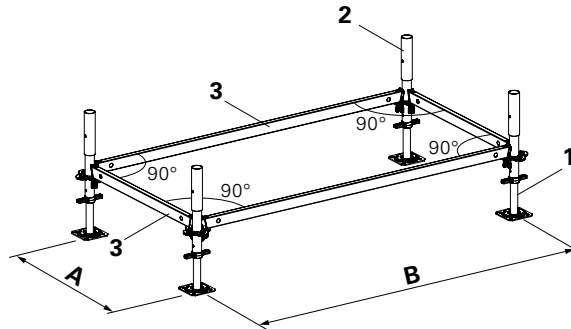

Fig. A2.01
3. Insert Horizontal Ledgers (3) into the rosettes of the standards and align with a levelling device. (Fig. A2.01)
All ledgers must be at 90° to one another. (Fig. A2.01)